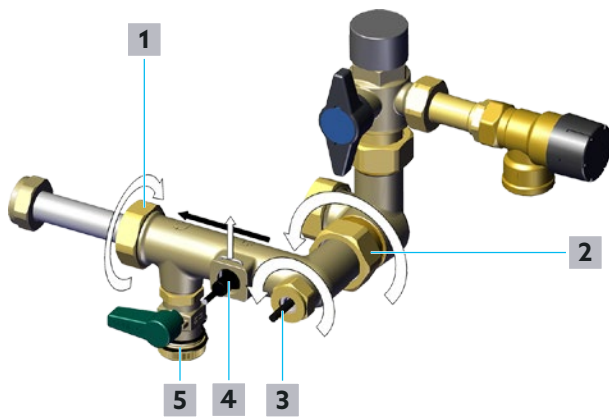

Fig. 35: Cleaning of the measuring turbine
- 7** Loosen the clamp of the volume flow sensor (position **4** in Fig. 35 on page 38) and put it aside.
- 8** Loosen the union nut of the temperature sensor for potable water (cold)/circulation S3 (position **3** in Fig. 35 on page 38).
- 9** Carefully pull the volume flow sensor for potable water circuit (position **4** in Fig. 35 on page 38) and the temperature sensor for potable water (cold)/circulation S3 (position **3** in Fig. 35 on page 38) out of the fitting.
- 11** Loosen the union nut cold potable water supply (position **2** in Fig. 35 on page 38) with a 38 mm open-end spanner.
- 12** Loosen the union nut heat exchanger side (position **1** in Fig. 35 on page 38) with a 37 mm open-end spanner.
Direct the flowing water through the fitting in the opposite direction to the flow direction (from the direction of position **1** in the direction of position **2** in Fig. 35 on page 38). A water hose with an appropriate spray nozzle is particularly suitable for this purpose.
- 4 Install the volume flow sensor for potable water circuit (position 4 in Fig. 35 on page 38) and the temperature sensor for potable water (cold)/circulation S3 (position 3 in Fig. 35 on page 38).